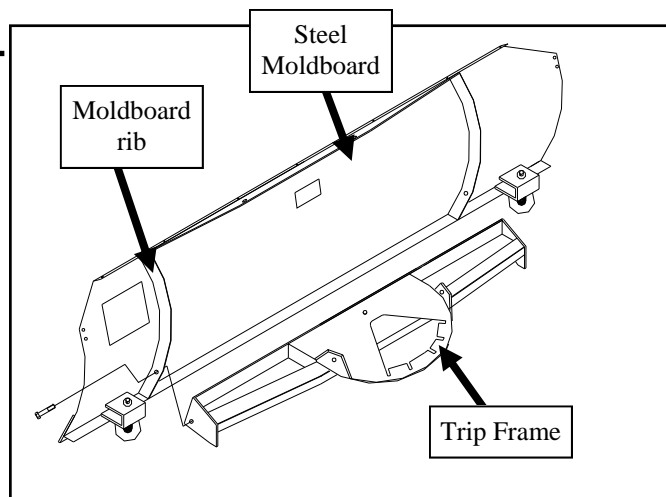

Fig. 5.1—Trip-Frame to Moldboard Assembly
5.1 Per fig 5.1, locate the steel moldboard, trip frame, two 1/2" x 2-1/4" bolts, four 1/2" flat washers, and two 1/2" nylon lock nuts. Apply all-season grease to the mating surfaces on the trip frame and moldboard rib. As shown, line up the mounting hole in the trip frame with the mounting hole on the moldboard rib (near the bottom). Install into the mounting holes two 1/2"-13 x 2-1/4" bolts and washers as shown. Install 1/2" washers and nylon lock nuts on the back side of the bolts. Tighten the pivot hardware only until all clearance at the bolt and nut ends are removed. These must not be tightened fully, so that the installed snow blade is free to pivot on the trip frame. Check the trip frame for ability to move by hand without heavy force.